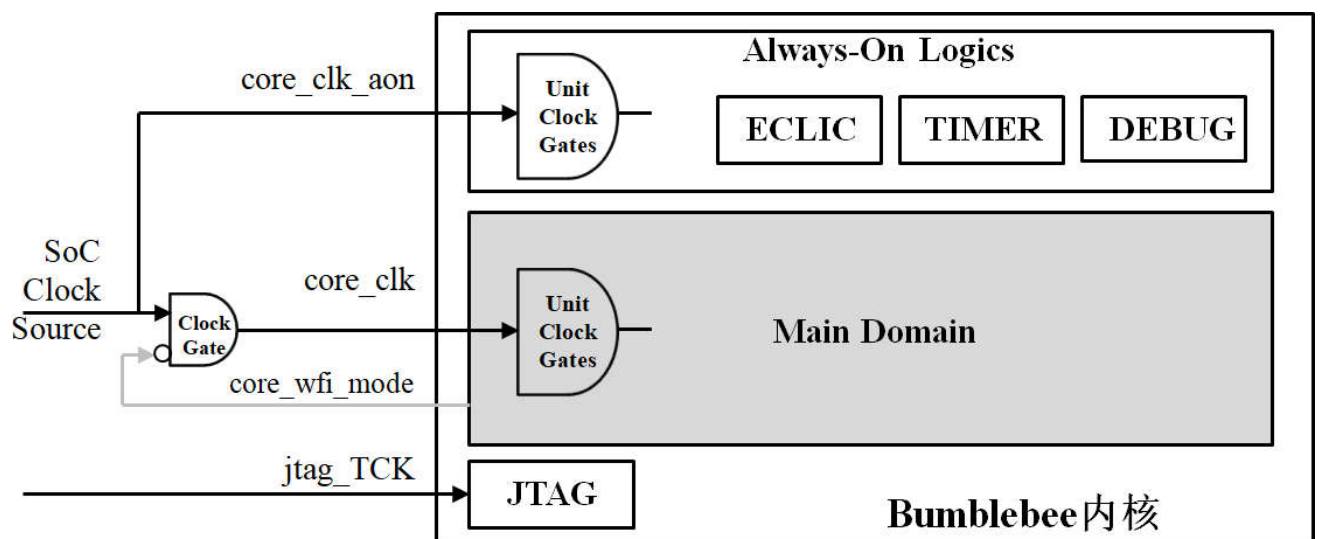

Figure 2-1 Bumblebee kernel clock domain diagram
Bumblebee kernel clockDomain division shown in Figure 2-1 As shown, the entire processor core is divided into two clock domains that are asynchronous to each other:
- Figure 2-1 When the WFI is successfully executed, the output signal `core_wfi_mode` of the Bumblebee core is pulled high, indicating that the processor core is in a sleep state after executing the WFI instruction; the SoC system level can be used.